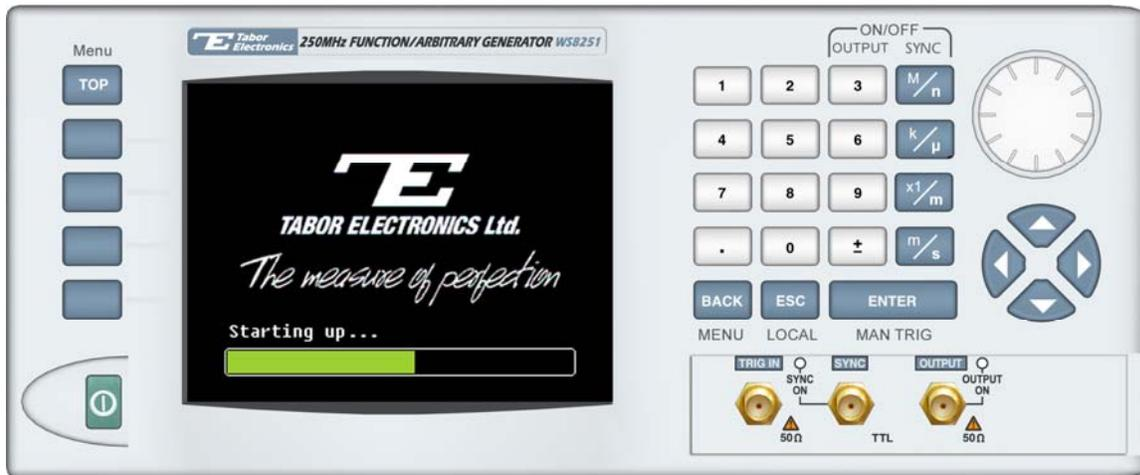

Figure 7-5, Check for Progress Bar Movement
4. Turn the 8251 power **ON** and observe that the progress bar, as shown in Figure 7-5, is advancing from left to right. Do not do anything on the 8251 until the progress bar completes its travel to the right end.